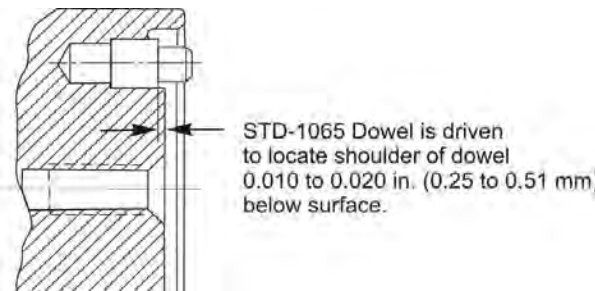

Figure 31
- C. Make sure that the shoulder of the dowel is 0.010 to 0.020 in. (0.25 to 0.51 mm) below the surface of the crankshaft as shown in Figure 31.